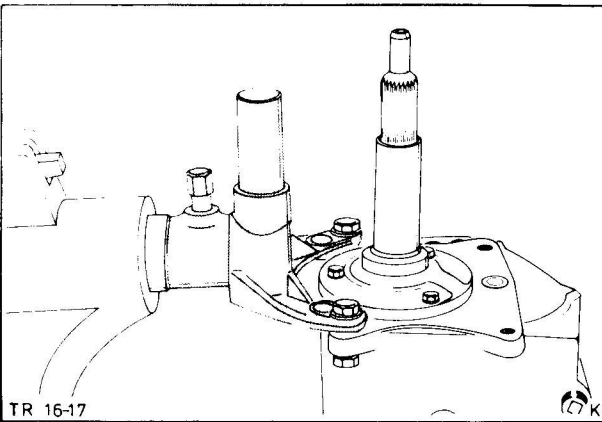

Fig. 20. Secure gearbox to stand with Special Tool No. 16-009
4. Secure gearbox to stand with Special Tool No. 16-009 for further dismantling, Fig. 20.